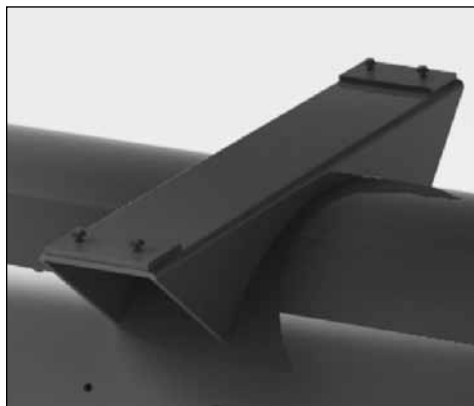

Figure 6-7
- c. Remove the bolts in the center mounted bracket. (Figure 6-7)